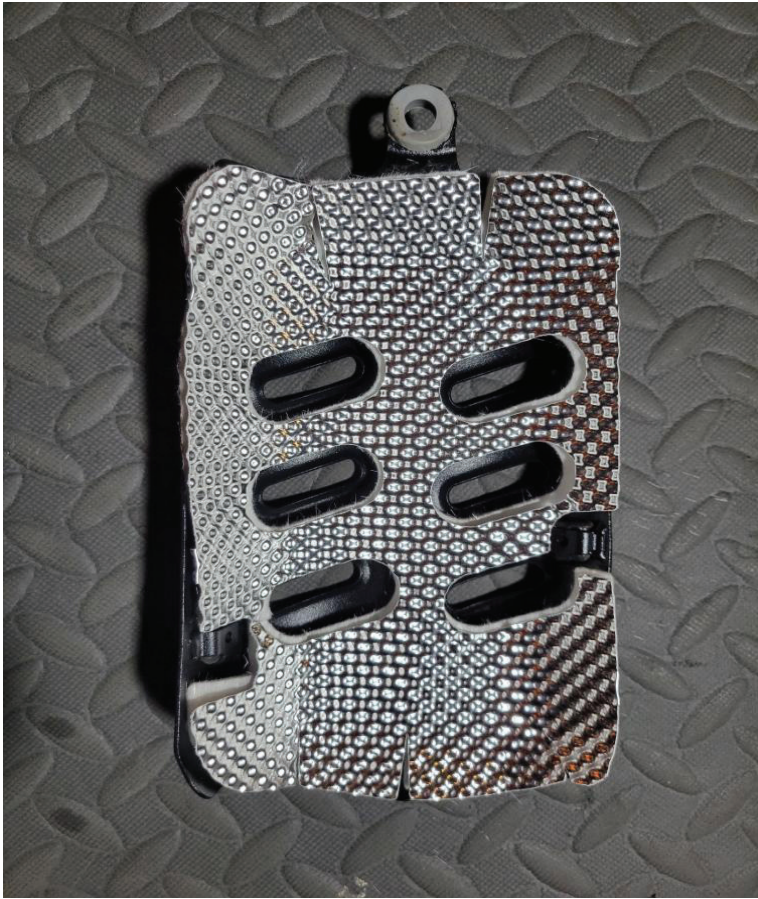

FIG. 4
STEP 5 After marrying the insulation and aluminum pieces together for the front factory shield, place it into the shield with the insulation facing the shield, and press into place, shaping the pieces into the factory heat shield. FIG 4